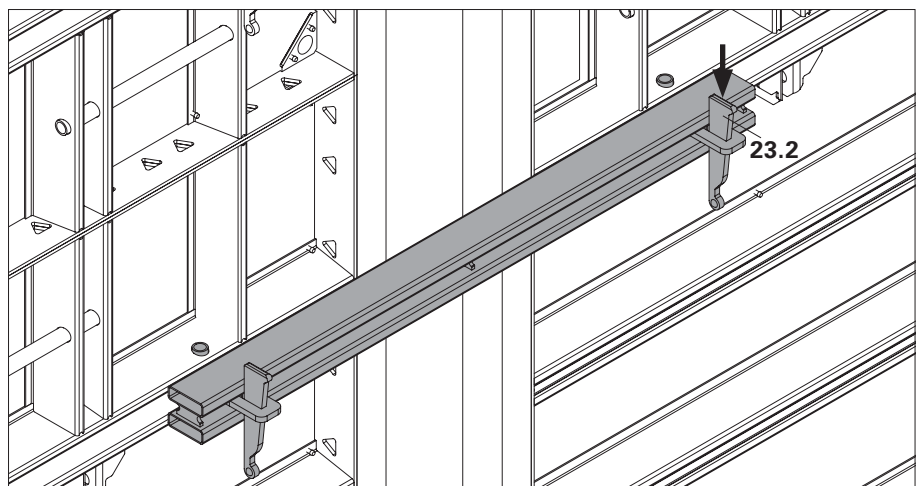

Fig. A4.11
→ Compensation Waler (23) is now securely in position. (Fig. A4.11)